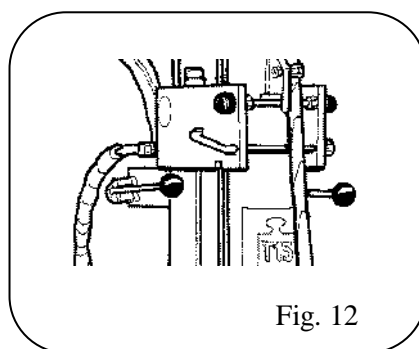

Fig. 12
- Lock the control levers in a central position. (Fig. 12)